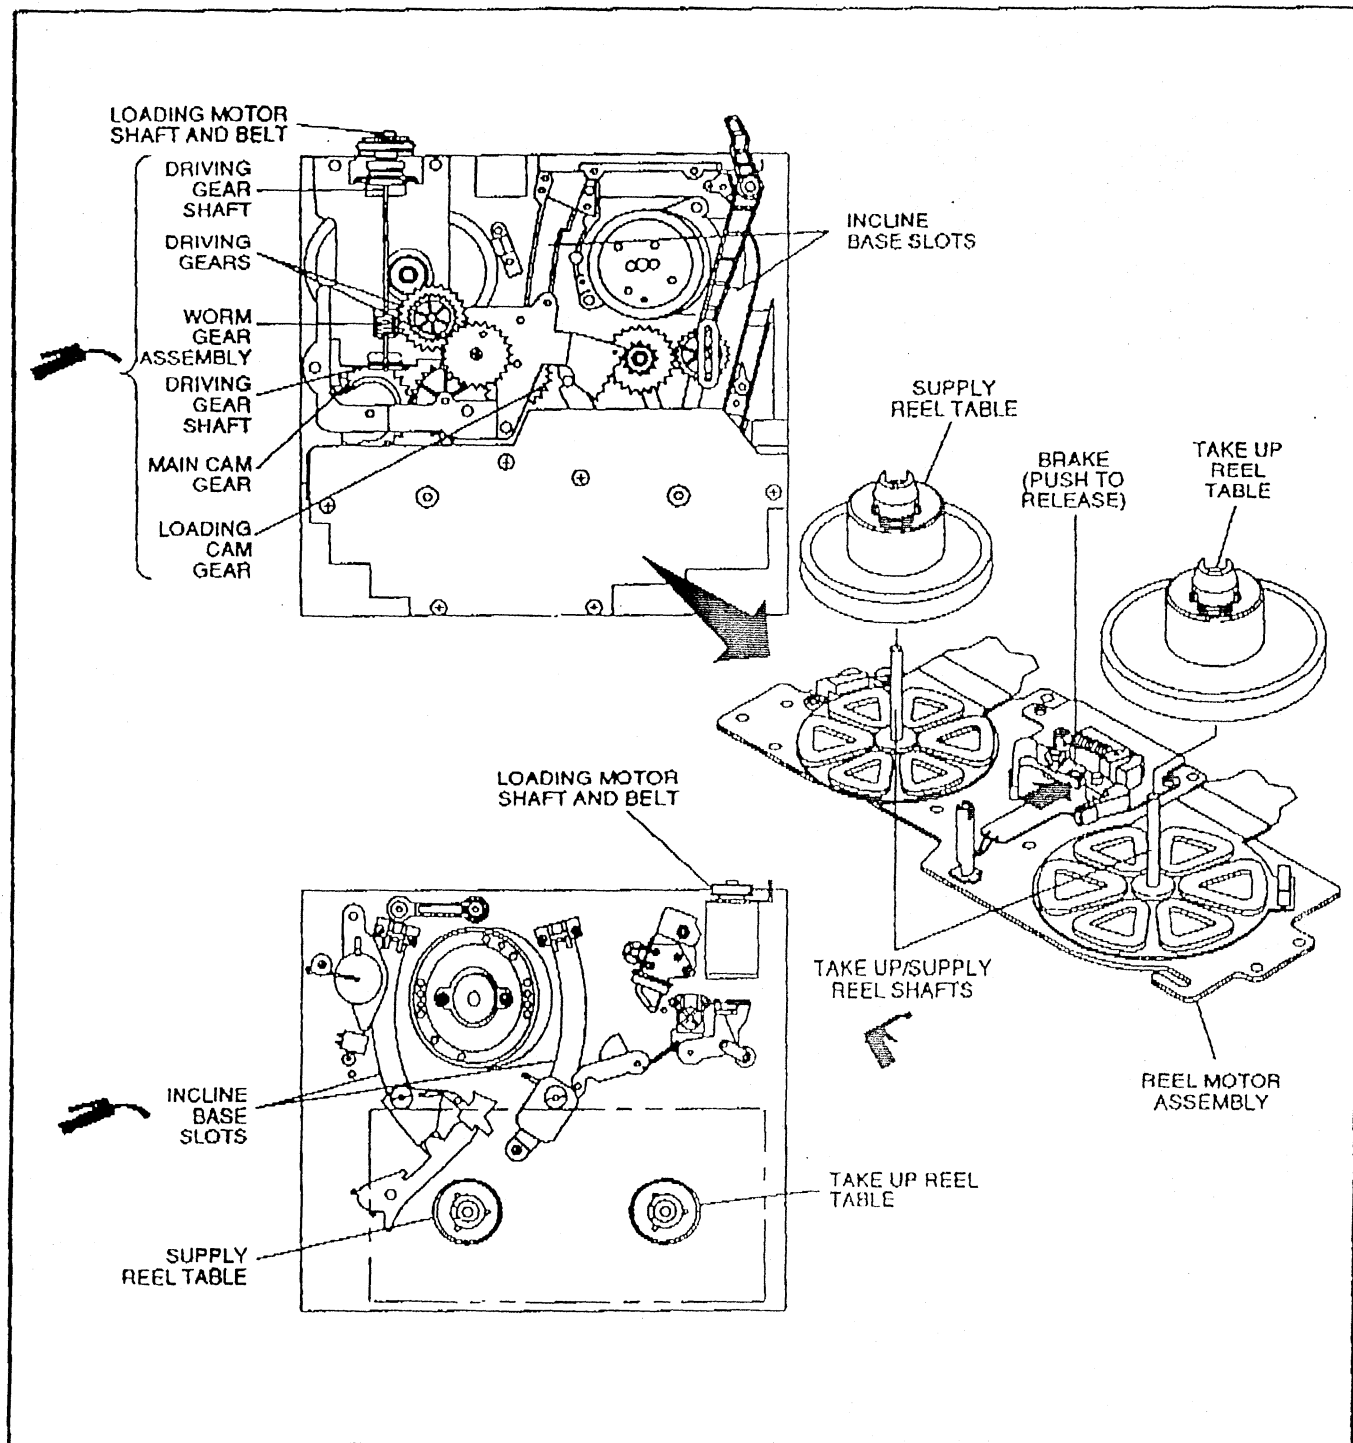

Figure 3. Lubrication Points
15. Using a disposable towel and/or cotton swabs remove old grease from the following points (see Figure 3). Gears can be moved by physically rotating the loading motor shaft at the belt.
21. Apply one or two drops of high quality spindle oil to the supply and takeup reel shafts (see Figure 3).
NOTE After installing the Reel Motor Assembly it is necessary to release (open) the breaks using a small screwdriver (see Figure 3).